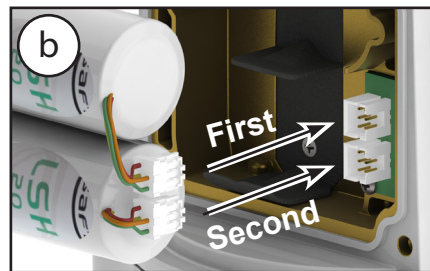

Figure 5. Non-rechargeable batteries
- Ensure the batteries are in place and plug the leads into the connectors in the order shown in Figure 5 and Figure 6.